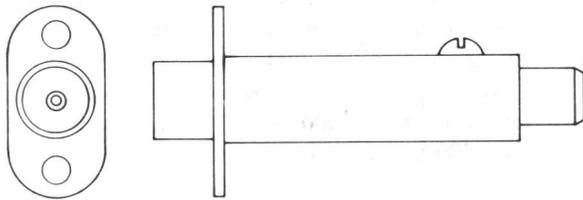

Fig. 26—621A Jack
2.20 621A: The 621A coaxial-type jack (Fig. 26) is designed for a solderless shield connection to the 728A cable. This jack is also designed to mate with the 439A and 440A type plugs. This jack is used with the L5 Coaxial System.